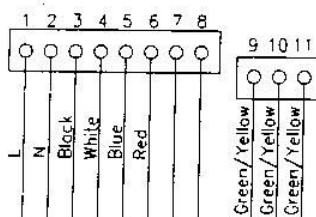

Fig. 24
6. Slacken terminals 1 - 6, 9 and 10 at the bottom of the box and remove the mains supply cable, and 4-core plus earth burner cable. (See Fig. 24)